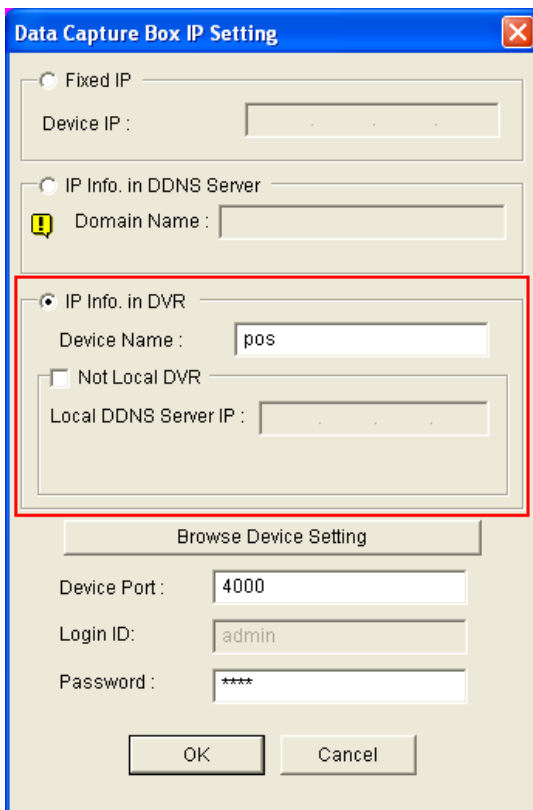

Figure 20
1. Click the **Browse Device Setting** button (see *Figure 20*) to see the IP address on the IE browser.